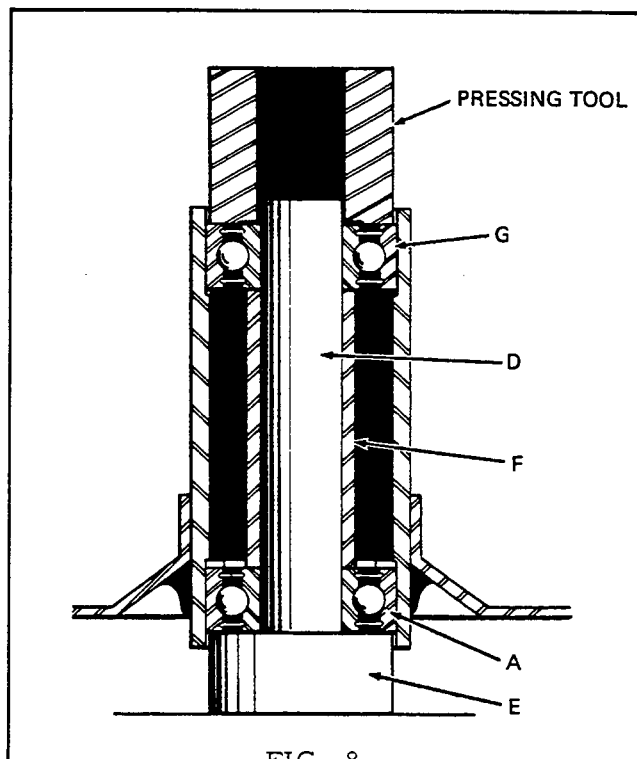

FIG. 8
2. Insert a "dummy shaft" "D" through the bore of the upper bearing and invert the tube assembly. Rest the upper bearing "A" on a surface "E" that will give equal support to both the inner race and outer race of the bearing. Refer to Fig. 8.
washer to press on outer race only. Press the inner race and outer race at the same time. Refer to Fig. 8. In effect, the pressing tool should push the outer race of the bearing .005" deeper into the tube than the inner race.